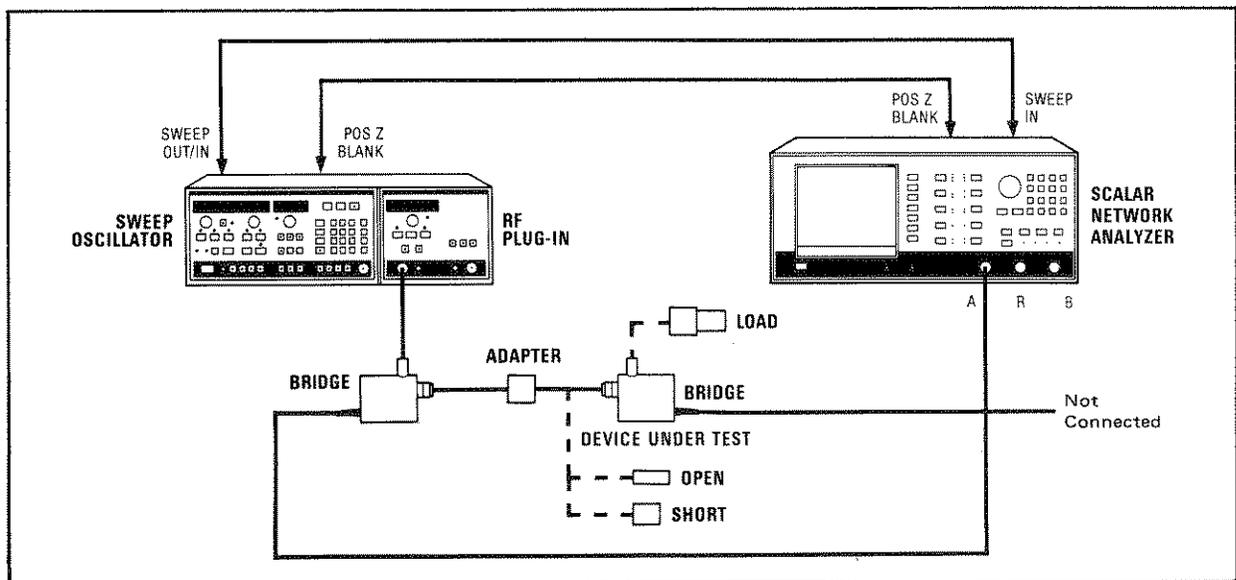

Figure 4-3. TEST Port SWR Test Setup
1. Set up the equipment as shown in Figure 4-3, with the appropriate calibrated short connected to the Directional Bridge (the test device, not the device under test). If the Directional Bridge is an 85020B, connect the Model 11852A 50-ohm to 75-ohm minimum loss pad between the output of the RF Plug-In and the input port of the Directional Bridge.